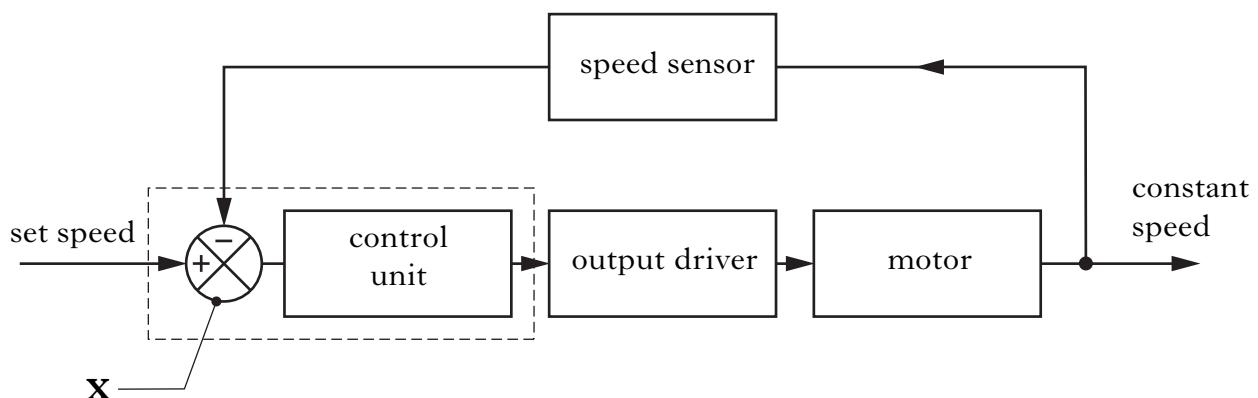

Figure Q4
4. A control system used to maintain the speed of a DVD while playing is shown in Figure Q4.
- (b) (i) State the type of feedback shown in Figure Q4.